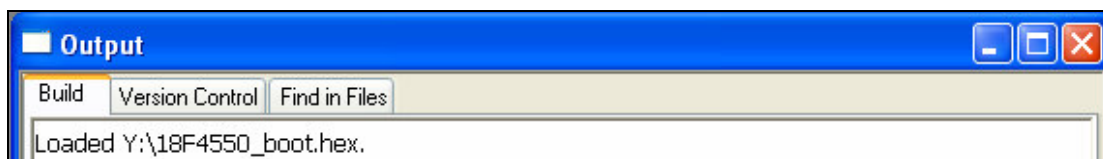

Figure 11 Load hex file
3. Click “File/Import...” to open a xxx.hex file, the output window will show a hex file loaded, as shown in figure 11